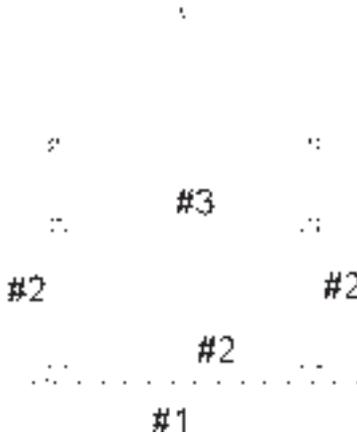

Figure 5
The best way to understand the movement or shaking potential of any structure is to first identify areas that will NOT shake: (see Figure 5)
- The earth will not shake. While this is not an absolutely true statement, it is a very practical statement, and for the purposes of this User's Guide it will be considered an absolute. (#1 in Figure 5)
- Any hard support or structure that vertically ties a surface to earth defines a secondary "hard point"; a point not allowed to shake by virtue of its connection to the earth. For example, a supporting wall, concrete slab, building foundation, pier, or column (#2 in Figure 5).
- Any horizontal structure suspended between two or more hard points will flex, bend and shake between those hard points, depending on the construction and rigidity of the suspended structure. For example, a wood joist floor or a couch between its legs (#3 in Figure 5).